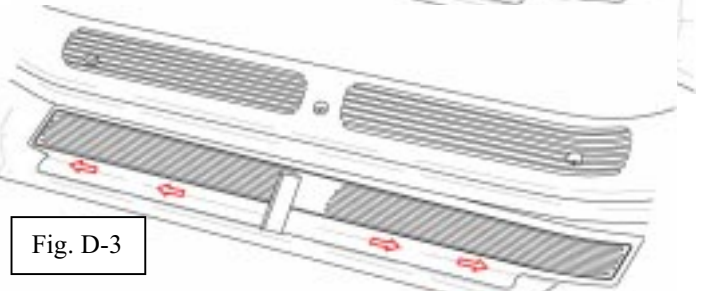

Fig. D-3
- ➡ 5. Using a felt block, slowly squeegee the applique to the vehicle over the radius surface starting in the center and working out to each end with smooth overlapping strokes. (Fig. D-3)